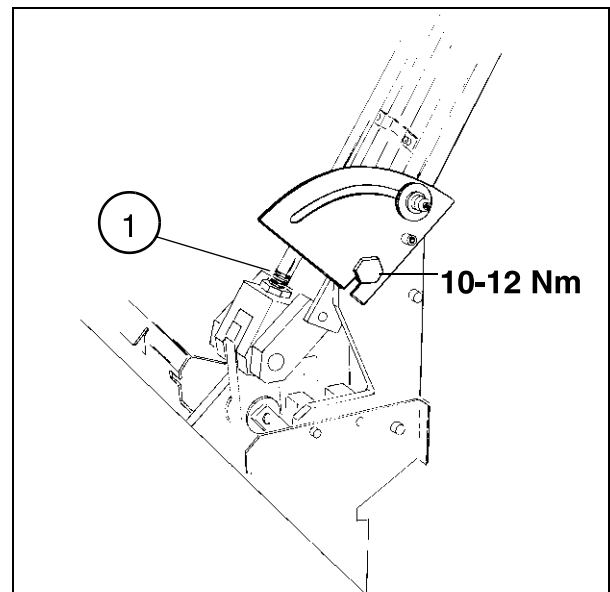

Fig. 14:
- Check the screws and nuts on the connecting piece (Fig. 14 / p. 35).